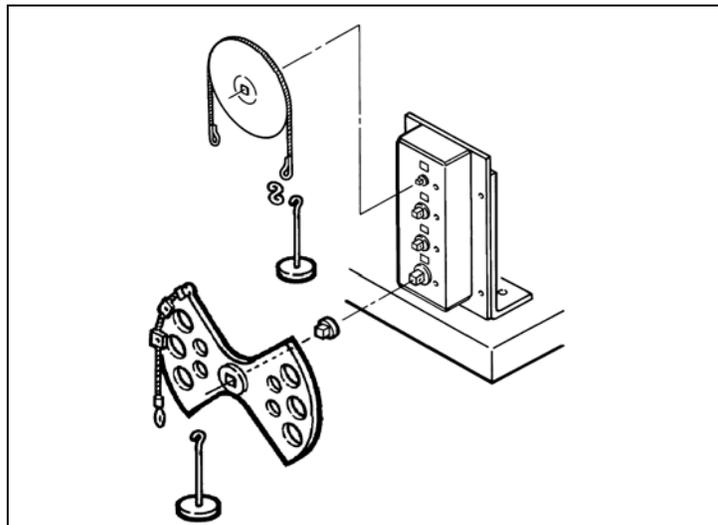

Figure 5-4: 4-in-1 Transducer Mounting Detail
- Sturdy table using a right angle bracket. Refer to *Figure 5-4*.